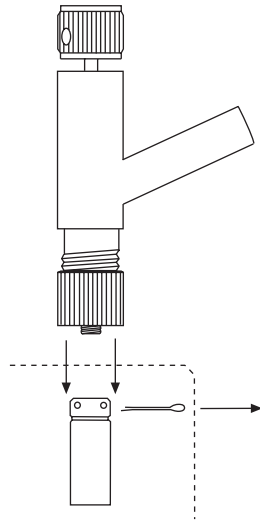

Figure 87. Attaching the Vacuum Connector
2. Push the Vacuum Connector onto the vacuum port on the back of the camera (see Figure 87). Tighten the bottom knurled ring (the one closest to the camera body).